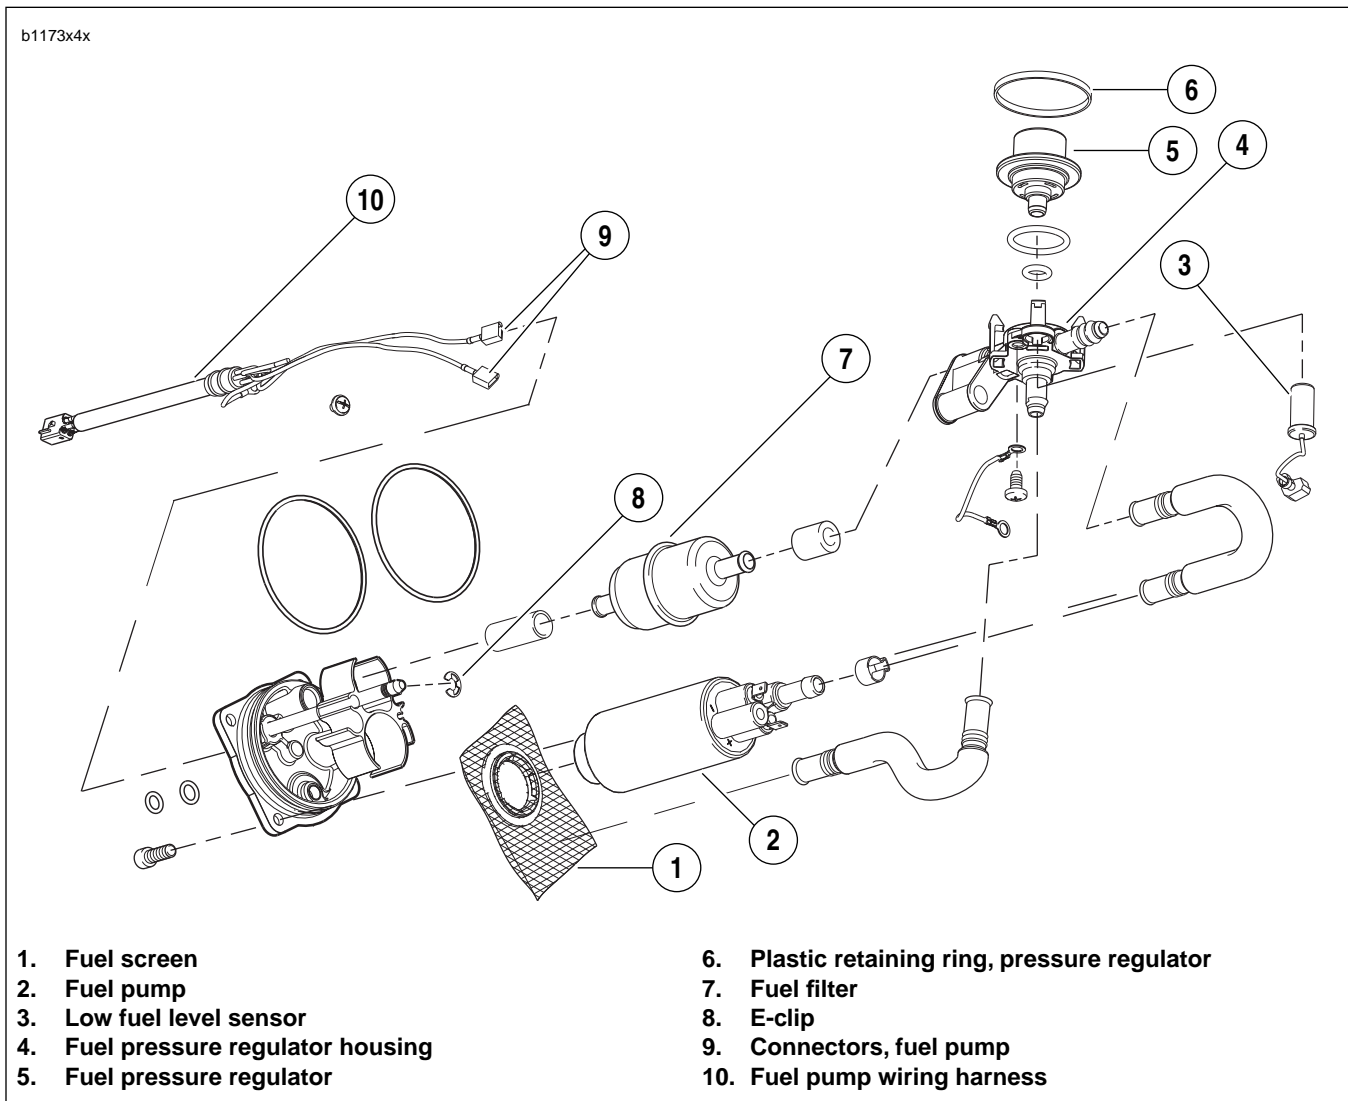

Figure 4-92. Fuel Pump Assembly
3. Remove ground fastener (12) from the fuel pump and fuel filter bracket (9).
4. Remove fuel pressure regulator E-clip (7).
5. Pull regulator housing (3) and fuel pump (8) with bracket (9) as an assembly.
6. See Figure 4-92. Pry fuel screen (1) from fuel pump (2).
8. Install regulator housing assembly (4) & (5) and fuel pump (2).
9. Install E-clip (8) in bottom groove on shaft.